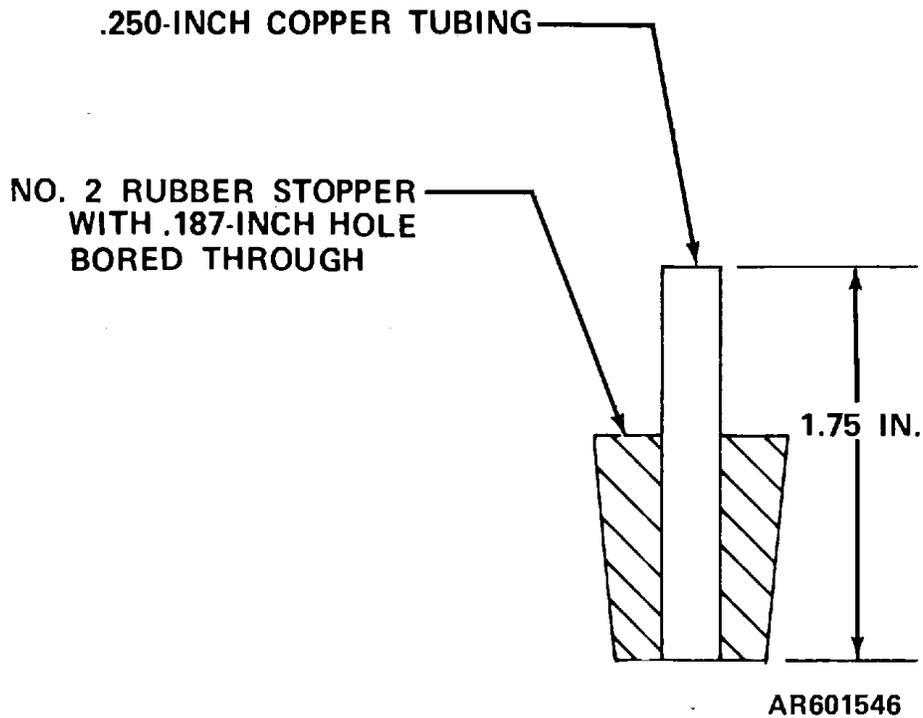

Figure 1. Fabrication instructions for connector (B1).
**5. Accessories Required.** Some of the accessories listed in table 3 are issued as indicated in paragraph 4 above, except for the one which is fabricated as shown in figure 1. All are to be used in this calibration procedure. When necessary, the items other than the one fabricated may be substituted by equivalent items.